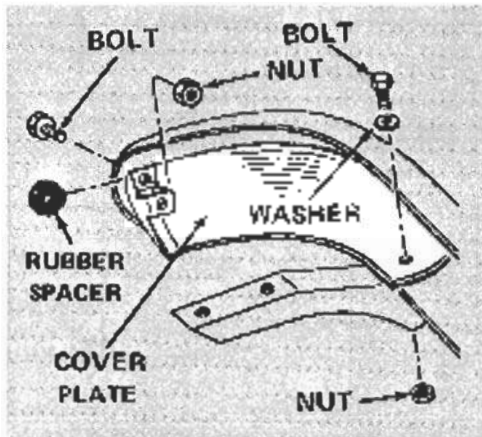

Fig. 3-9. Cover plate being removed or installed on rear bumper.
5. To remove the cover plate, remove the nuts and bolts shown in Fig. 3-9.